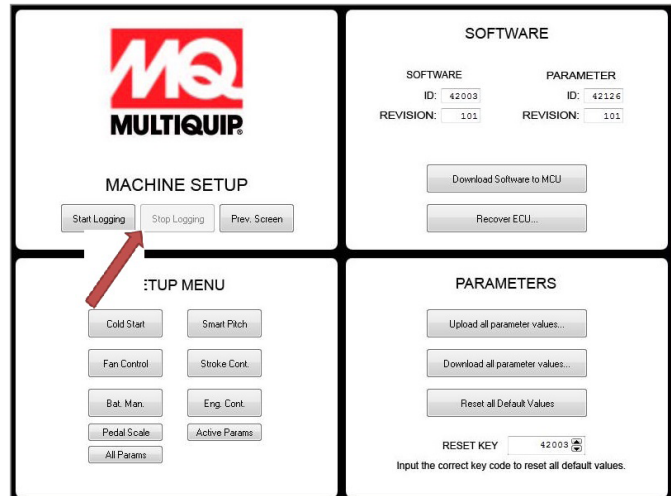

Figure 29. Stop Logging Screen
2. Click on "Stop Logging" button (Figure 29).